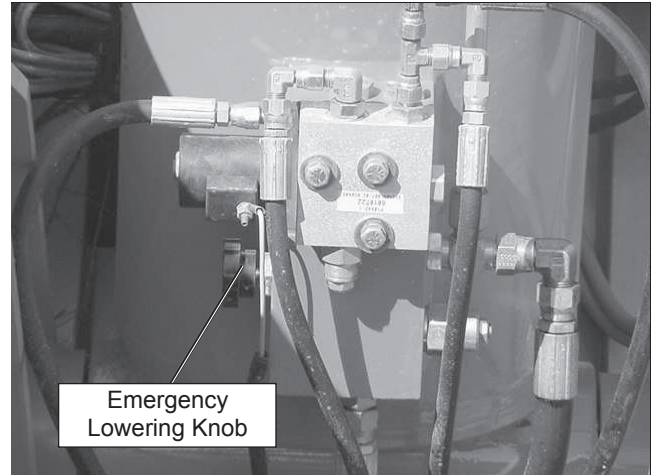

Figure 10.6 – Emergency Lowering Knob
1. Slowly turn the knob (refer to Figure 10.6) to open the bleed down valve. Control the rate of descent by turning the knob. Make sure the boom is retracting and lowering at the same time.